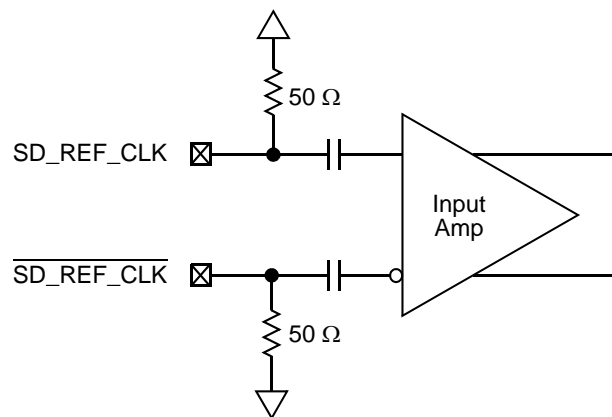

Figure 39. Receiver of SerDes Reference Clocks
- The SD_REF_CLK and $\overline{\text{SD_REF_CLK}}$ are internally AC-coupled differential inputs as shown in Figure 39. Each differential clock input (SD_REF_CLK or $\overline{\text{SD_REF_CLK}}$) has a 50- Ω termination to SGND_SRDSn (xc0revss) followed by on-chip AC-coupling.